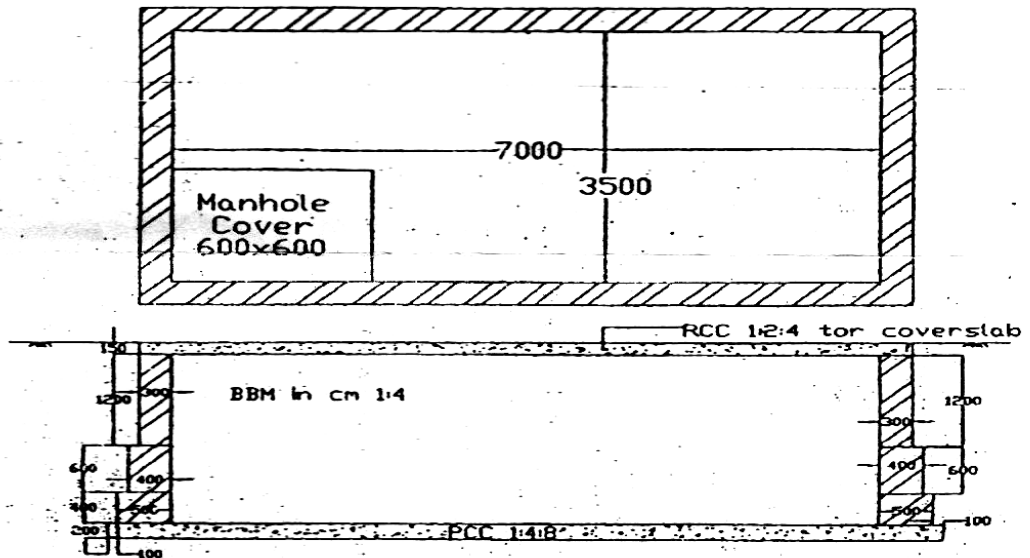

Figure: 2 - SKETCH OF SEPTIC TANK-PLAN AND SECTION
- 2 a. Details of a septic tank are given in Fig. 2(a), find the quantities of the following items: